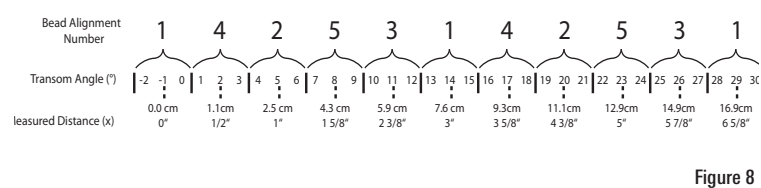
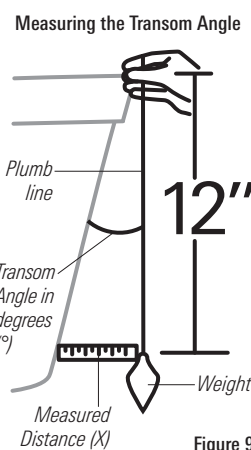

Figure 8
Figure 9
- 1a. If you already know your transom angle, refer to the chart below for the initial position to use to set the ratchets (Figure 8). If your transom is angled at 14 degrees (a common transom angle for many boats) use position 1 for the ratchets. In either case, go to step 2.
- 1b. If you do not know your transom angle, measure it using a plumb line (weighted nylon string or monofilament line) exactly 12 inches long. Hold the top of the plumb line against the top of the transom with your finger, and wait until the line hangs straight down (Figure 9). Using a ruler, measure the distance from the bottom of the plumb line to the back of the transom, then use the chart (Figure 8).
NOTE: It is important to take your measurement in the location shown in Figure 9, from exactly 12 inches down from the top of the transom.